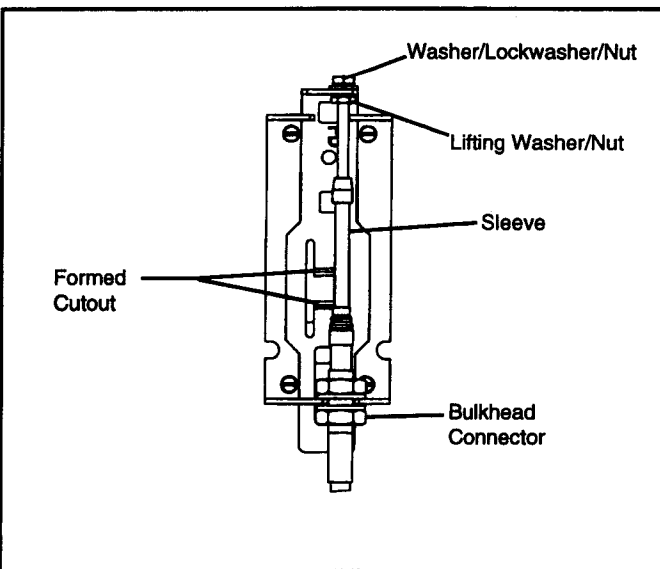
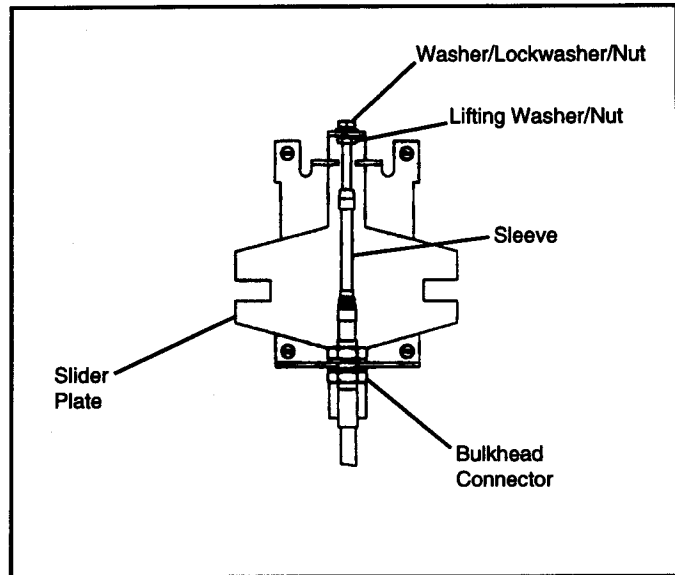
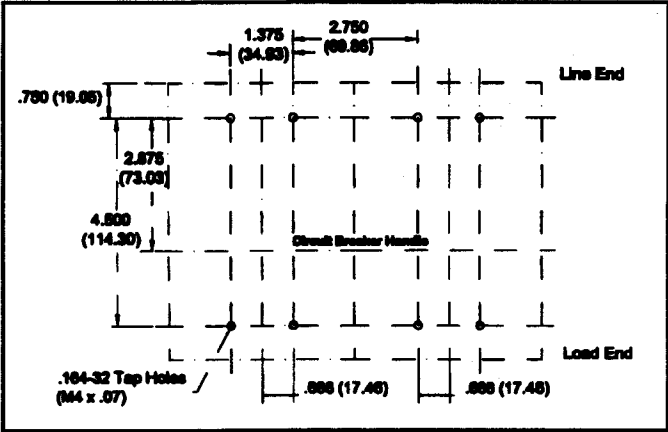

Fig. 1-3 F-Frame Dual Mechanism
Fig. 1-4 F-Frame Dual Actuator Mechanism
Fig. 1-9 Dual Flex Shaft™ Breaker Drill Plan
The Flex Shaft handle mechanism provides a means of externally operating the circuit breaker and can be applied to enclosures of varying heights and depths. The handle can be used with NEMA 1, 3R, and 12 enclosure applications, depending on the accessory components selected. An operating handle, flexible shaft, and mechanism are required for standard application. Eight lengths of shafts are available for use with the wide range of depths of various enclosures (3' through 10'). When selecting the length of the Flexible Shaft, ensure Minimum Bending Radius of 4 inches is maintained to operate properly. The standard method of shipment includes the mechanism preset at the factory. If minor field adjustments are required see Figure 1-3 or Figure 1-9. For this publication, the term circuit breaker shall also include the molded case switch and Series C motor circuit protector (HMCP).
In the event a customer must disassemble the preassembled Flex Shaft handle mechanism, the following procedure must be followed before continuing with the installation instructions. (See Fig. 1-4).
8. Check operation of mechanism for ON, OFF, and reset. Check the reset position of the actuator mechanism, that the lifting nut and sleeve of shaft do not come in contact with each other (see Fig. 1-4). If they do, move bulkhead connectors accordingly. If mechanism functions incorrectly, repeat procedure or go to Adjustment Checklist.
Loosen the lifting washer/nut while tightening the washer/lockwasher/nut, two or three turns should be sufficient (see Fig. 1-3 or Fig. 1-4).
Check the reset position of the actuator mechanism, that the lifting nut and sleeve of shaft do not come into contact with each other (Fig. 1-4 or Fig. 1-4). If they do, move bulkhead connectors accordingly.
For a K-Flexible Shaft Assembly, loosen the washer/ lockwasher/nut on the end of the shaft while tightening the lifting washer/nut until breaker turns ON with positive action. Tighten both nuts and recheck for ON, OFF, and Reset positions (Fig. 1-3 or Fig. 1-4).
Be certain after adjustment to have a minimum of 1 thread past the washerlockwasher/nut assembly (Fig. 1-3 or Fig. 1-4).